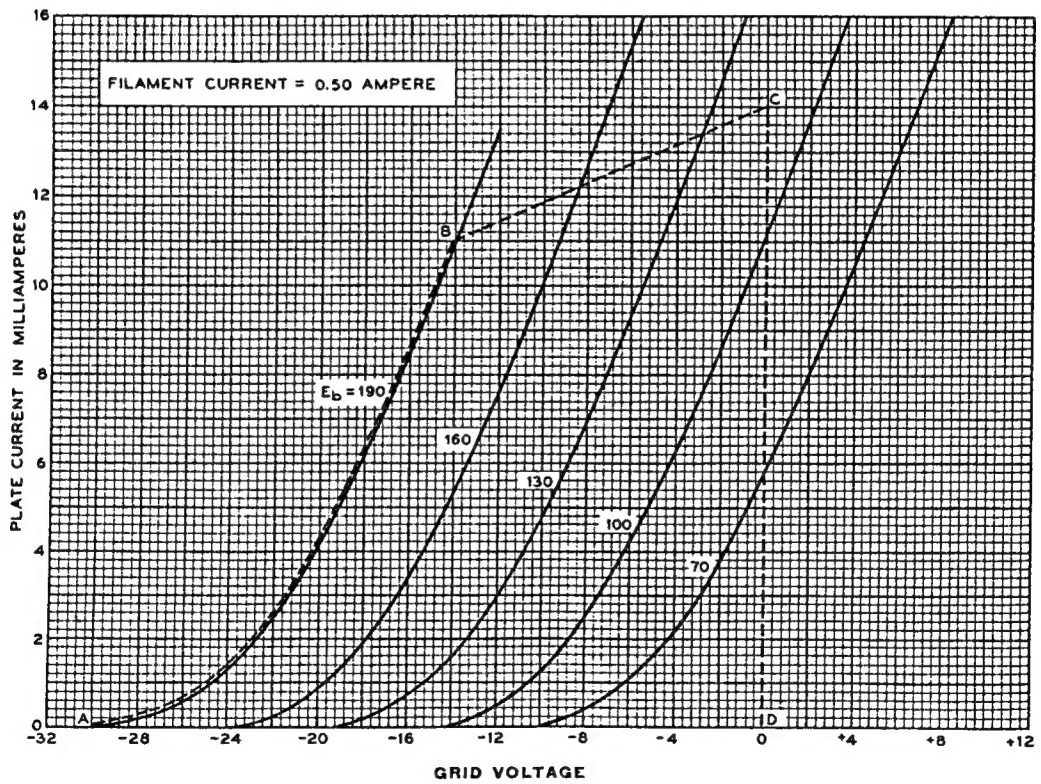
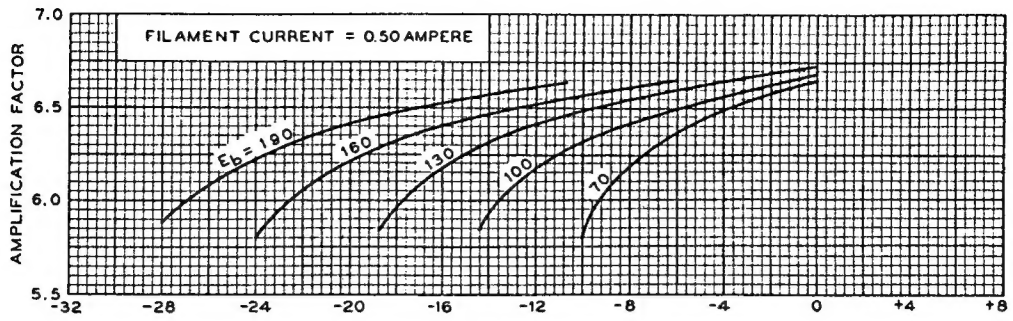
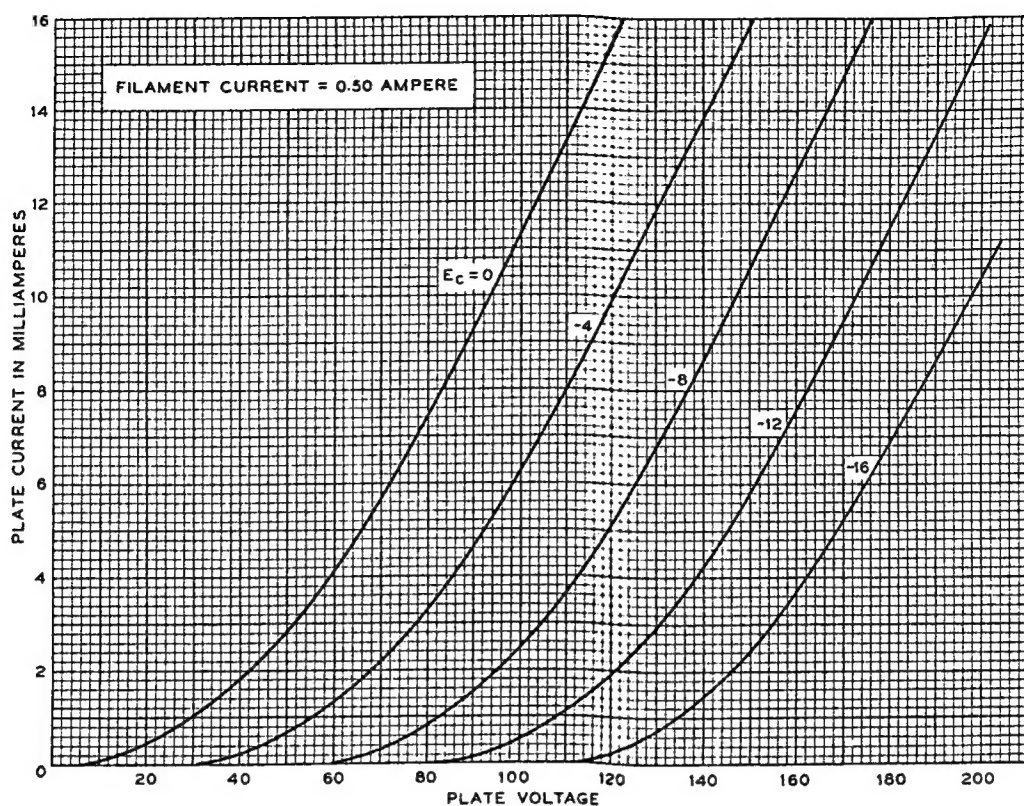

FIG. 3
FIG. 4
FIG. 7
**Characteristics and Operating Conditions**—Plate-current characteristics of a typical 101J tube are shown in Figure 3 as functions of grid bias. Permissible operating grid and plate voltages are included within the area ABCD. The grid and plate voltages are measured to the negative end of the filament. Corresponding amplification-factor, plate-resistance, and transconductance characteristics are given in Figures 4, 5, and 6, respectively. Plate-current characteristics are given as functions of plate voltage in Figure 7.